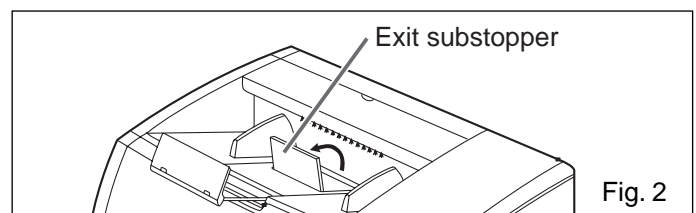

Fig. 2
- When scanning narrow documents as shown below, pull up the exit substopper. (See fig. 2)